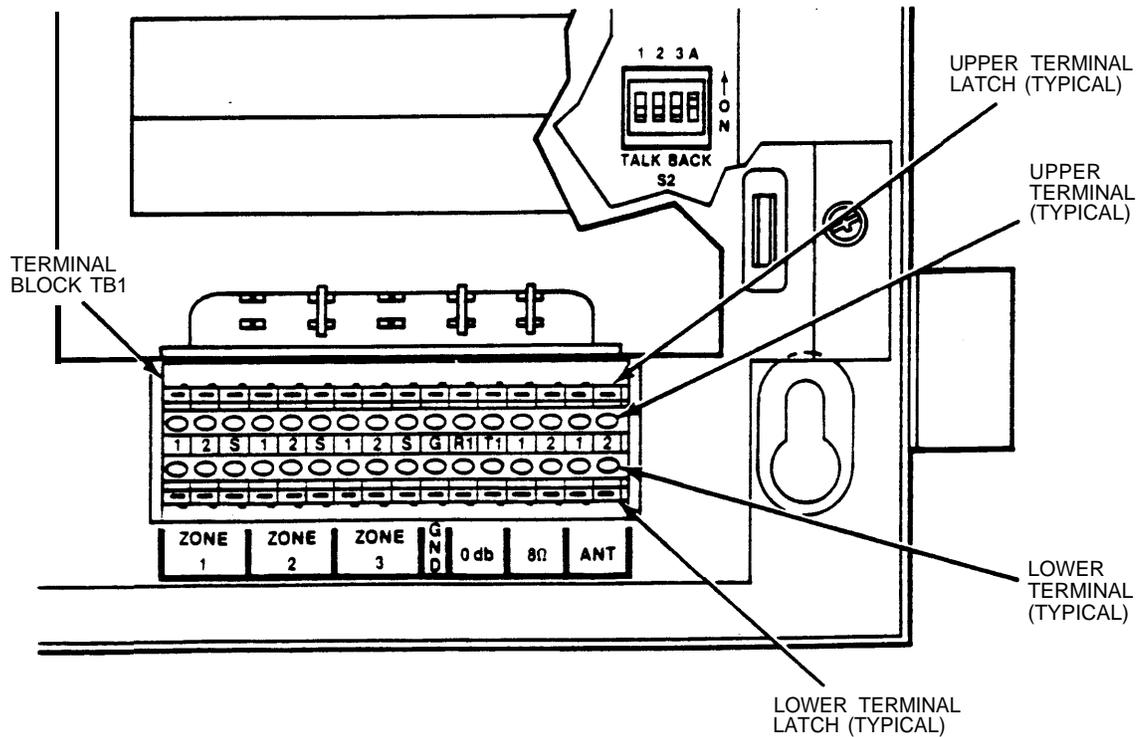

Figure 1-4. Terminal Block TB1
- **Terminal Block TB1** - A quick-disconnect terminal block which provides connections for loudspeakers, system ground, off-premise or remote amplifier, Music-On-Hold option, and FM antenna. The terminals of TB1 are arranged in a row along the top and bottom of the block, with an upper and lower terminal assigned to each connection (Figure 1-4). Either or both terminals may